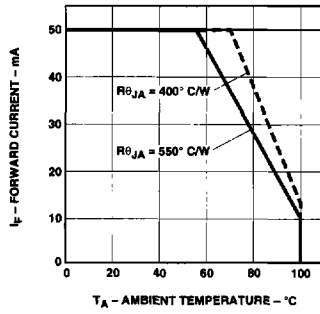

Figure 5. Maximum Forward DC Current vs. Ambient Temperature. Derating Based on $T_{JMAX} = 110^{\circ}C$.
3. Derate linearly as shown in Figure 5.